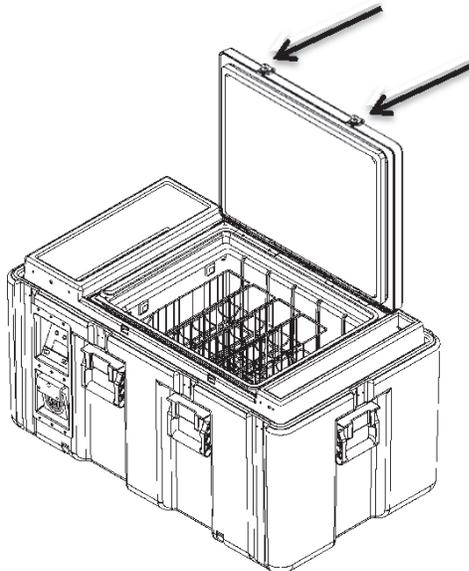

Figure 7. AX56L Inner Lid and Fasteners
5. Open the inner lid to access payload storage (Figure 7).